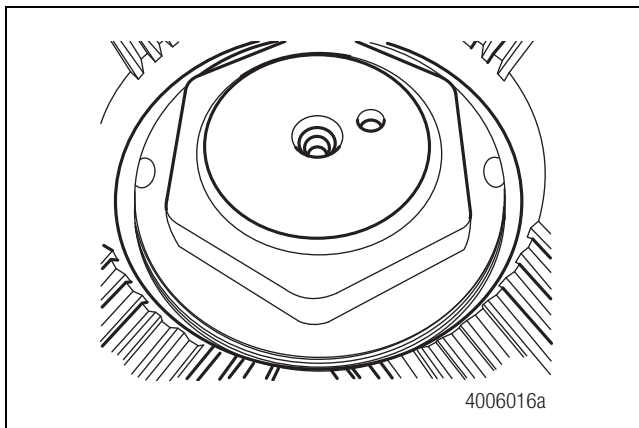

Figure 7.10
9. Use a suitable staking tool to stake the nut in two places directly above the slots in the companion flange. Figure 7.10.